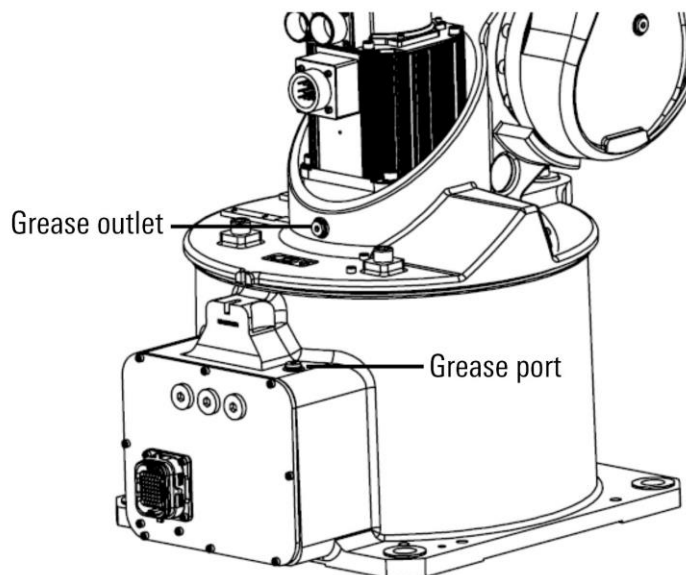

Figure 12-6 Replace J1 axis reducer grease
- Step4. Remove the M10x1 plug of the grease outlet, as shown in Figure 12-6.